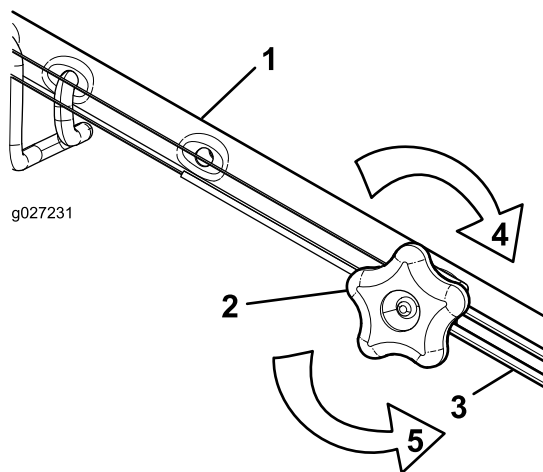

Figure 47
1. Turn the adjustment knob counterclockwise to loosen the cable adjustment (Figure 47).
2. Adjust the tension on the cable (Figure 47) by pulling it back or pushing it forward and holding that position.